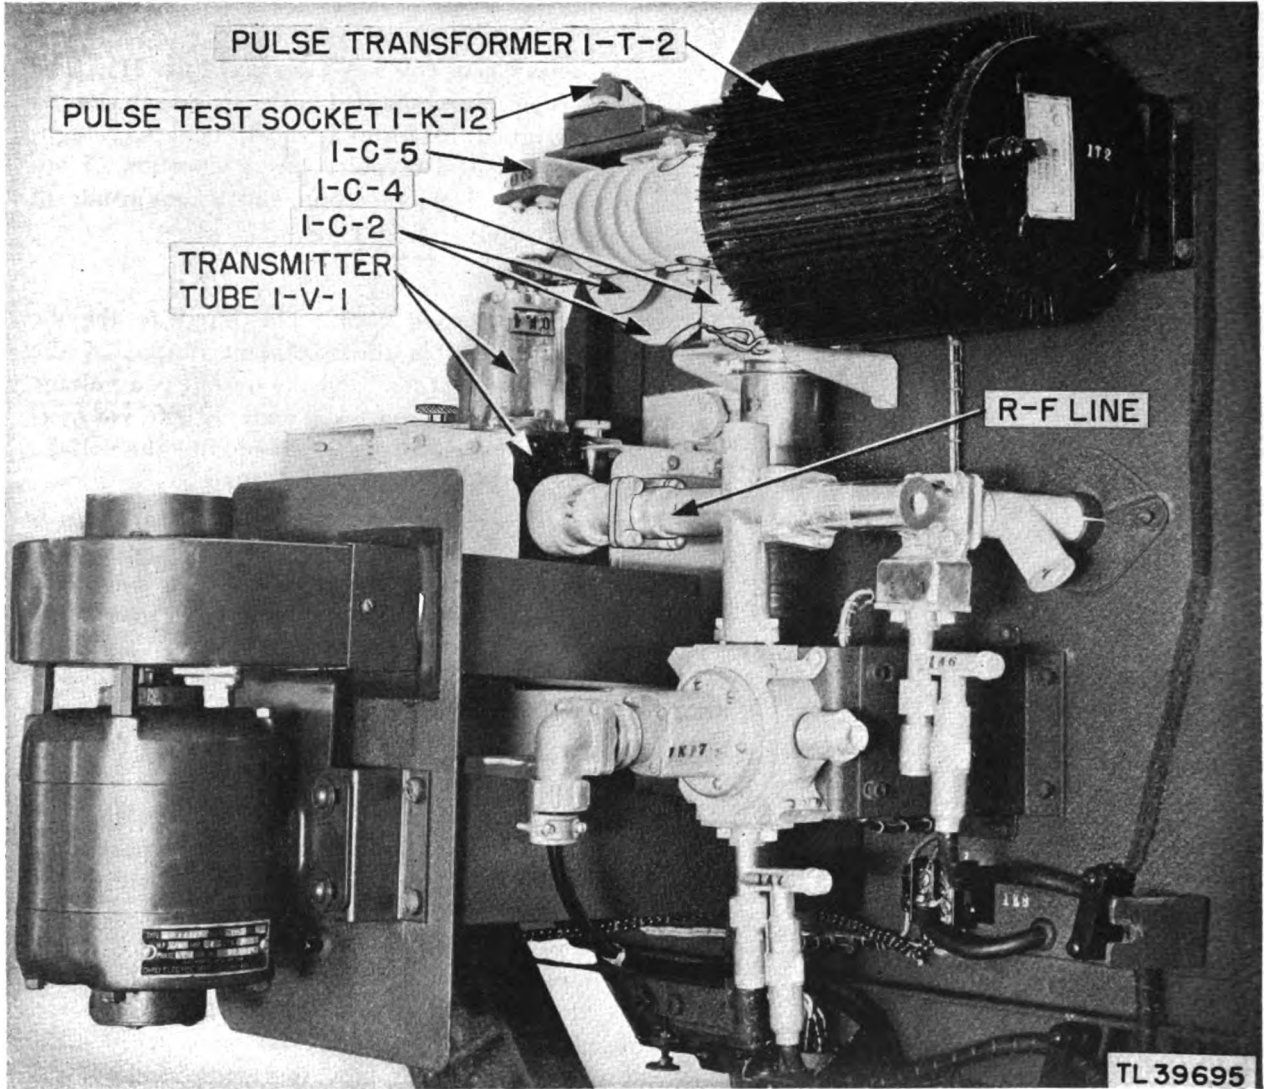
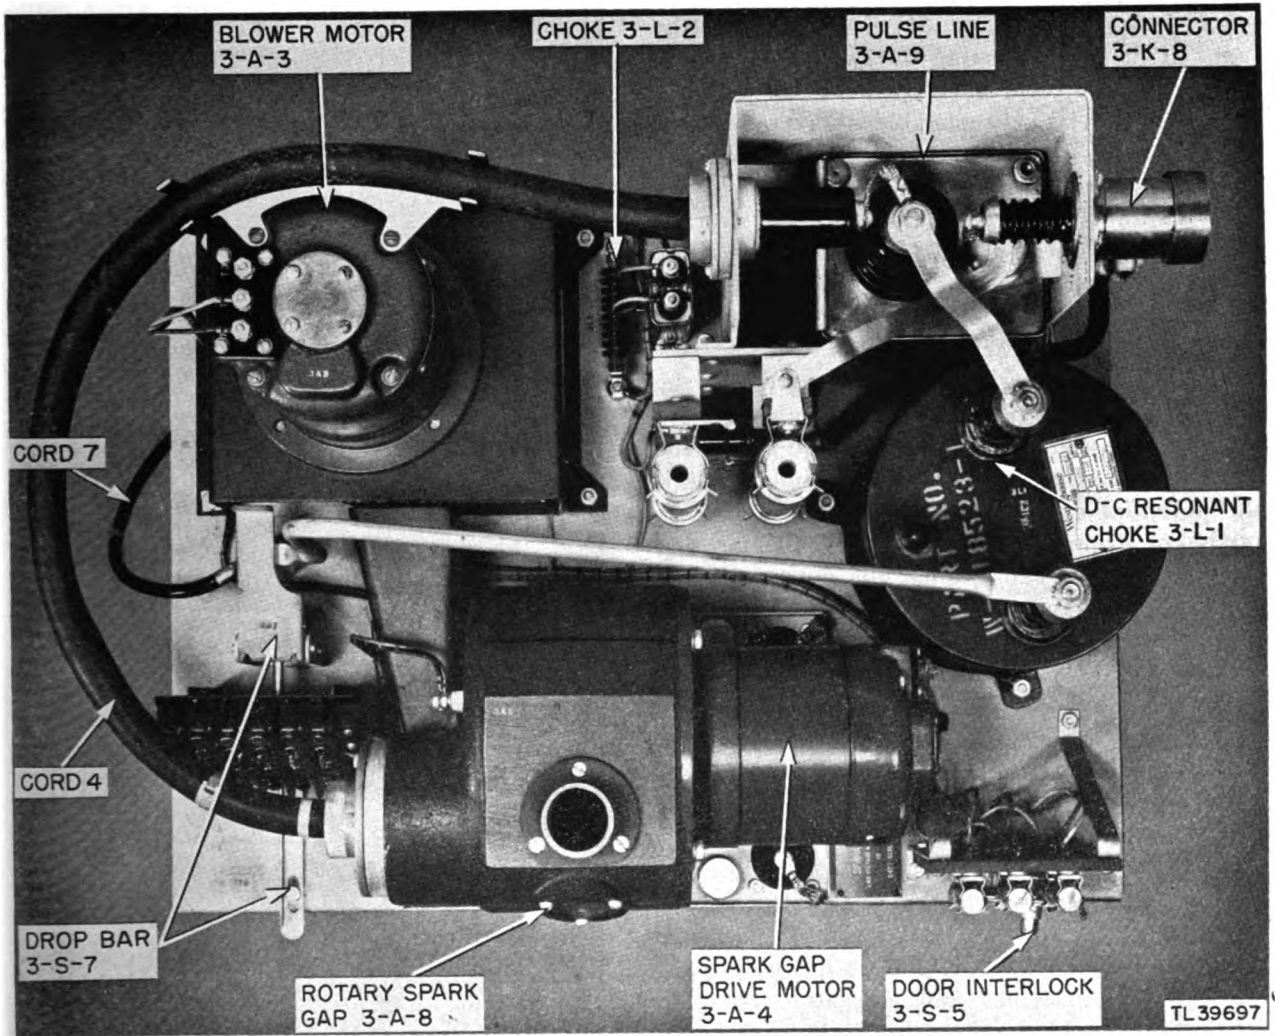
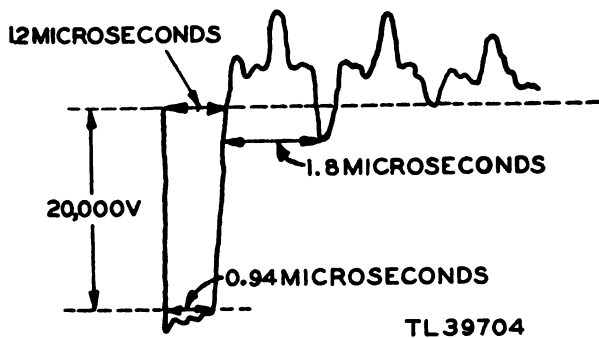

Figure 29. Radio Frequency Unit BC-1224-A, transmitter system parts.
Figure 31. Spark Gap GA-9-A (Rotary), top view of chassis.
Figure 38. Waveform of pulse input to transmitter tube.
*b. TRANSMITTER TUBE.* The transmitter tube is located in Radio Frequency Unit BC-1224-A which is mounted on the back of the Antenna AN-134-A (fig. 29). This tube is of the magnetron type. Its purpose is to generate r-f oscillations when the pulse from the spark gap is applied to its cathode.
a. **SPARK GAP GA-9-A (ROTARY)** (fig. 31). The various circuits contained in the spark-gap cabinet are designed to form a short, negative, high-voltage pulse. The pulse has a duration of approximately 1 microsecond and a magnitude of approximately  $-5,000$  volts.
a. SIMPLIFIED CHARGING AND DISCHARGING CIRCUITS. Figure 35① shows a simplified charging and discharging circuit which is the equivalent of the actual circuit used in the unit. This circuit is used for the purpose of explaining the action of the unit. The pulse-forming line 3-A-9 (fig. 31) is shown as a simple capacitance, since this is its external appearance as far as the charging and discharging circuit is concerned.
(1) *Charging of pulse-forming line.* At the start of the charging cycle, point A is at a potential of +6,000 volts, and points B and C are at ground potential. The difference in potential across the d-c resonant choke 3-L-1 (fig. 31) will cause a large current to flow into the pulse-forming line. The complete charging path is from ground through capacitor 1-C-4 (fig. 29), the
value the spark gap (fig. 31) fires, lowering the input of the pulse-forming line to ground potential. While the recurrence frequency of a rotary spark gap is relatively unstable, an average value may be used for computation. The rotary spark gap contains seven electrodes, and the speed of the drive motor is 3,450 rpm; therefore the average recurrence frequency is 402.5 cycles per second. In order to complete its charging cycle between pulses, the resonant frequency of the charging circuit must be very close to 200 cycles per second. When the spark gap arcs to ground, the potential at ② is quickly lowered to very close to ground potential. Since the voltage across the pulse-forming line cannot change immediately, the potential at point ③ is lowered to a value far below ground potential. If the pulse-forming line were a pure capacitance, the potential at ③ would be lowered to  $-12,000$  volts. However, the internal construction of the line is such that the voltage at point ③ is dropped to  $-5,000$  volts. The action of the pulse-forming line is discussed in more detail later in this paragraph. Pulse transformer 1-T-2 is an autotransformer having a voltage ratio of approximately 4 to 1. Therefore, when the potential at ③ is lowered to  $-5,000$  volts, the potential at ④ is lowered to approximately  $-20,000$  volts. This causes the transmitter tube to conduct. The discharge path of the pulse-forming line is down through the pulse transformer and capacitor 1-C-4 to ground, and back up from ground through the spark gap to the other side of the pulse-forming line. There is also another path through the upper part of the pulse transformer and the transmitter tube to ground. The discharge paths are shown by the arrows in figure 35③. The discharge of the pulse-forming line through capacitor 1-C-4 places a small voltage across the capacitor that is removed by the current flow during the charging cycle of the pulse-forming line.
(3) *Summary of charging and discharging of pulse-forming line.* In (1) and (2) above the discussion was based on consideration of the current flow in each part of the circuit during, first, the charging and then the discharging of the pulse-forming line. Considering these flows of current from the viewpoint of a full operating cycle, there are two types of current flow. There is the a-c flow through the lower part of the pulse transformer and capacitor 1-C-4 and the d-c flow through the upper half of the pulse transformer, the trans-
d. **PULSE TRANSFORMER.** The pulse transformer (fig. 37) is wound with two secondaries, each producing the same pulse voltage and connected in the same polarity. The two secondary windings also furnish the a-c path between the filament transformer 1-T-1 and the filament of the transmitting tube. Two 0.25-microfarad (mf) bypass capacitors 1-C-3 and 1-C-5 connect the two secondaries at each end of the transformer, preventing pulse voltage from appearing across the transmitter tube filament and secondary of the filament transformer. The 5,000-volt pulse on the primary of the transformer is amplified to approximately 20,000 volts on the secondary by the 1-to-4 turns ratio of the transformer. Figure 38 shows the pulse which is applied to the cathode of the transmitter tube. The characteristic impedance of the pulse cable is 50 ohms. The input impedance of the transmitter tube is 800 ohms. Since a transformer with a 1-to-4 turns ratio gives an impedance transformation of 1 to 16, the pulse transformer matches the characteristic impedance of the line to the input impedance of the transmitter tube.
r-f unit is illustrated in figure 29. Because a magnetic field is required for oscillations to take place, this type of tube is commonly called a *magnetron*.
The essential parts of the magnetron are shown in figure 39. A copper shell forms the outside of the tube. The plate of the magnetron is connected to this shell which is grounded. The cathode of the tube is indirectly heated and connected to one side of the heater. A built-in tuned circuit determines the frequency of oscillation. No adjustment is provided; to shift the frequency a new magnetron must be installed. Seven magnetrons are supplied with the equipment. The output is taken through a pick-up loop which is inductively coupled to the tuned circuit inside the magnetron. The pick-up loop connects to the inner conductor of the r-f transmission line (fig. 29) which feeds the r-f output to the antenna.
f. *PULSE TEST SOCKET.* The waveform of the pulse (fig. 38) applied to the cathode of the transmitter tube may be viewed by connecting the output of PULSE TEST socket 1-K-12 (fig. 29) to an oscilloscope. The 20,000-volt pulse is reduced in amplitude by the capacitor voltage divider composed of 1-C-1, 1-C-2, and 1-R-1. Since 1-C-1 is 200 mmf and 1-C-2 is 1 mmf, only a small fraction of the pulse voltage will appear across 1-C-1.
ing relay contacts 4-E-1-2 which are normally closed, constituting a direct short across the capacitor through the 10,000-ohm resistor 4-R-3. These contacts open only when power is applied to the set through the interlock circuit. There are two shorting bars from the positive side of the capacitor to ground, one of which (3-S-7, fig. 31) is actuated by the spark-gap door, while the other (4-S-2, fig. 34) is actuated by the opening of the door to the power supply chassis.